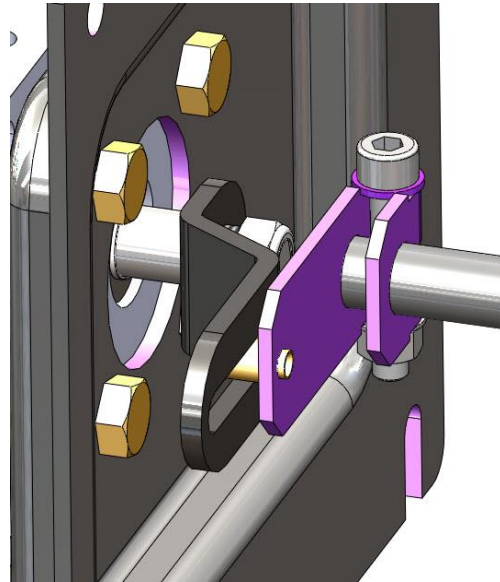

Figure 19: MaxFlo Assembly
- 3 Rotate the follower arm so that the take-off pin will slide into the slot on the follower arm. Adjust the bracket position as needed noting the engagement of the follower pin and the take-off arm slot. The pin should extend approximately 2 mm past the take-off arm. When properly adjusted, securely tighten the bracketing bolts. See Figure 19: MaxFlo Assembly.